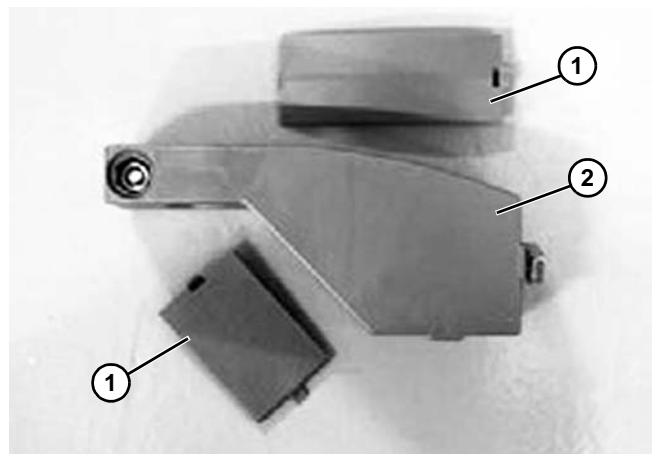

Figure 88
1. Open the upper and lower caps (**Figure 88, item 1**) and prepare the FGRB - 40 guide rail bracket (**Figure 88, item 2**) with T-bolt.